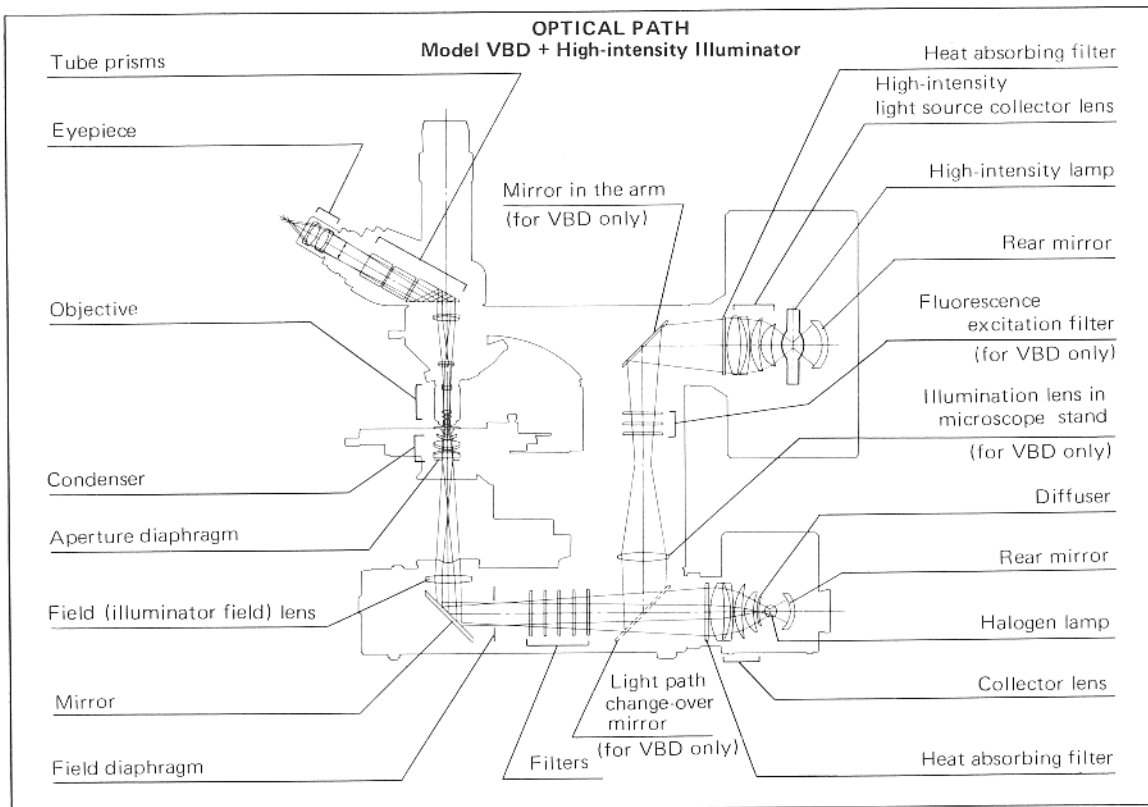

Fig. 22
4. Illumination system (Refer to Fig. 22)